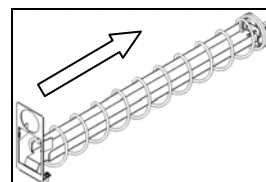

Figure 7
8. Install the **K-Cup adapter** through the spiral (See Fig. 7)